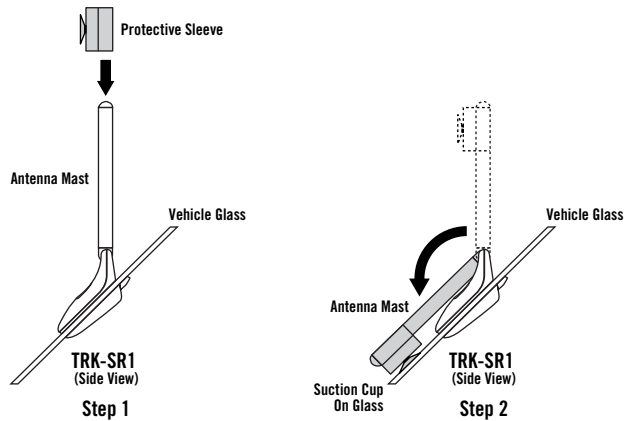

Figure 18. Placing the Protective Sleeve over the antenna mast before a car wash.
- For extended care, before running the vehicle through a car wash, use the enclosed protective sleeve to protect the antenna mast, as shown in Figure 18.